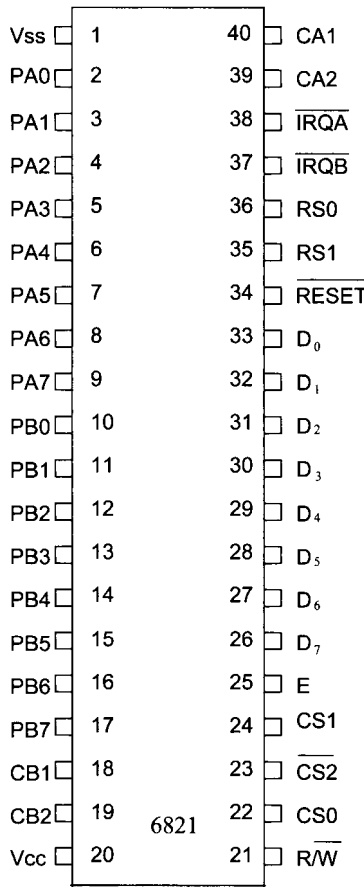

FIGURE 7.12 6821 pin diagram
68000/6821 Interface The Motorola 6821 is a 40-pin peripheral interface adapter (PIA) chip. It is provided with an 8-bit bidirectional data bus (D_0 – D_7), two register select lines (RS_0 , RS_1), read/write (R/\overline{W}) and reset (\overline{RESET}) lines, an enable line (E), two 8-bit I/O ports (PA_0 – PA_7 and PB_0 – PB_7), and other pins. Figure 7.12 shows the pin diagram of the 6821. There are six 6821 registers. These include two 8-bit ports (ports A and B), two data direction registers, and two control registers. Selection of these registers is controlled by the RS_0 and RS_1 inputs together with bit 2 of the control register. Table 7.5 shows how the registers are selected. In the table, bit 2 in each control register ($CRA-2$ and $CRB-2$) determines the selection of either an I/O port or the corresponding data direction register when the proper register select signals are applied to RS_0 and RS_1 . A 1 in bit 2 in CRA or